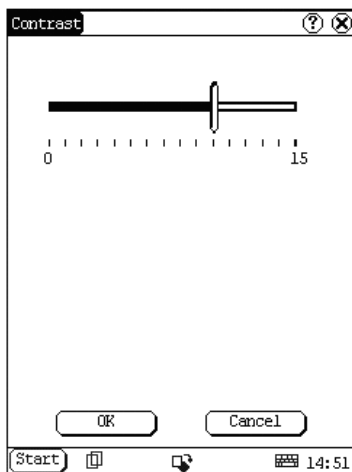

Fig 4-37
- 1) In the Control Panel interface, click 'Contrast' icon to open the Contrast interface. See Fig 4-37.